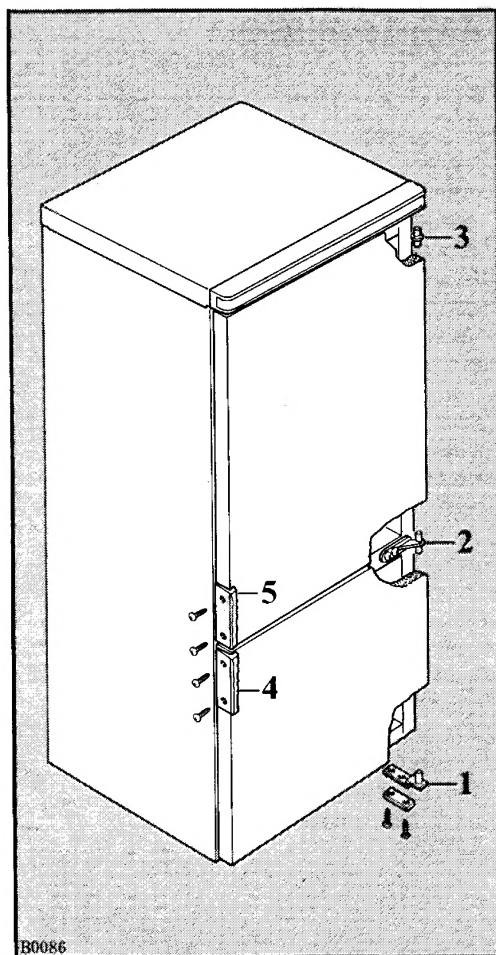

Fig. 7
- e) Refit the lower door and bottom hinge 1 on the opposite side (in case of model shown in fig. 7, unscrew levelling foot located on the left side and refit it on the right side).